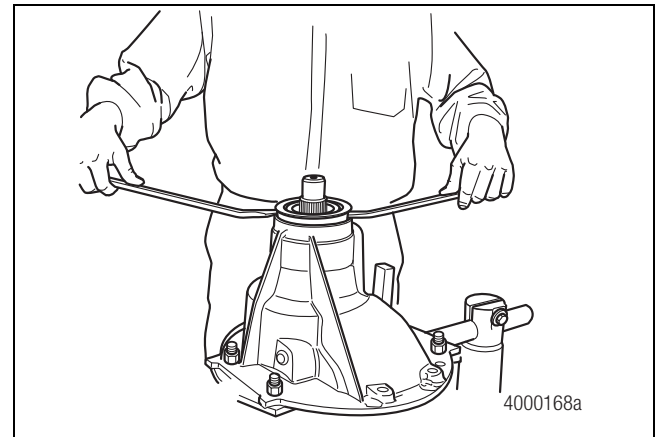

Figure 3.22
5. Use appropriate prying tools to remove the unitized oil seal from the carrier. Place the blades of the prying tools under the flange to remove the oil seal. Figure 3.22.